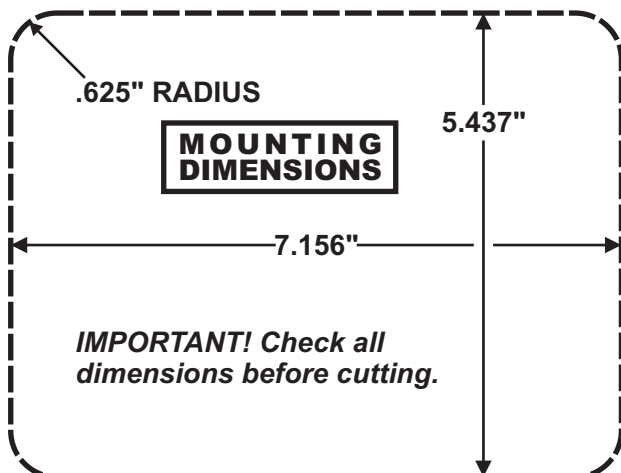

FIG. 1
3. Feed the lamp assembly wires through the hole in the reflector as shown in Fig. 1. The **WHITE** wire is ground (-), the **BLACK** wire is for high power operation (35 watts) 12 VDC, and the **RED** wire is for low power operation (14 watts) 12 VDC. Use appropriate wire connectors.